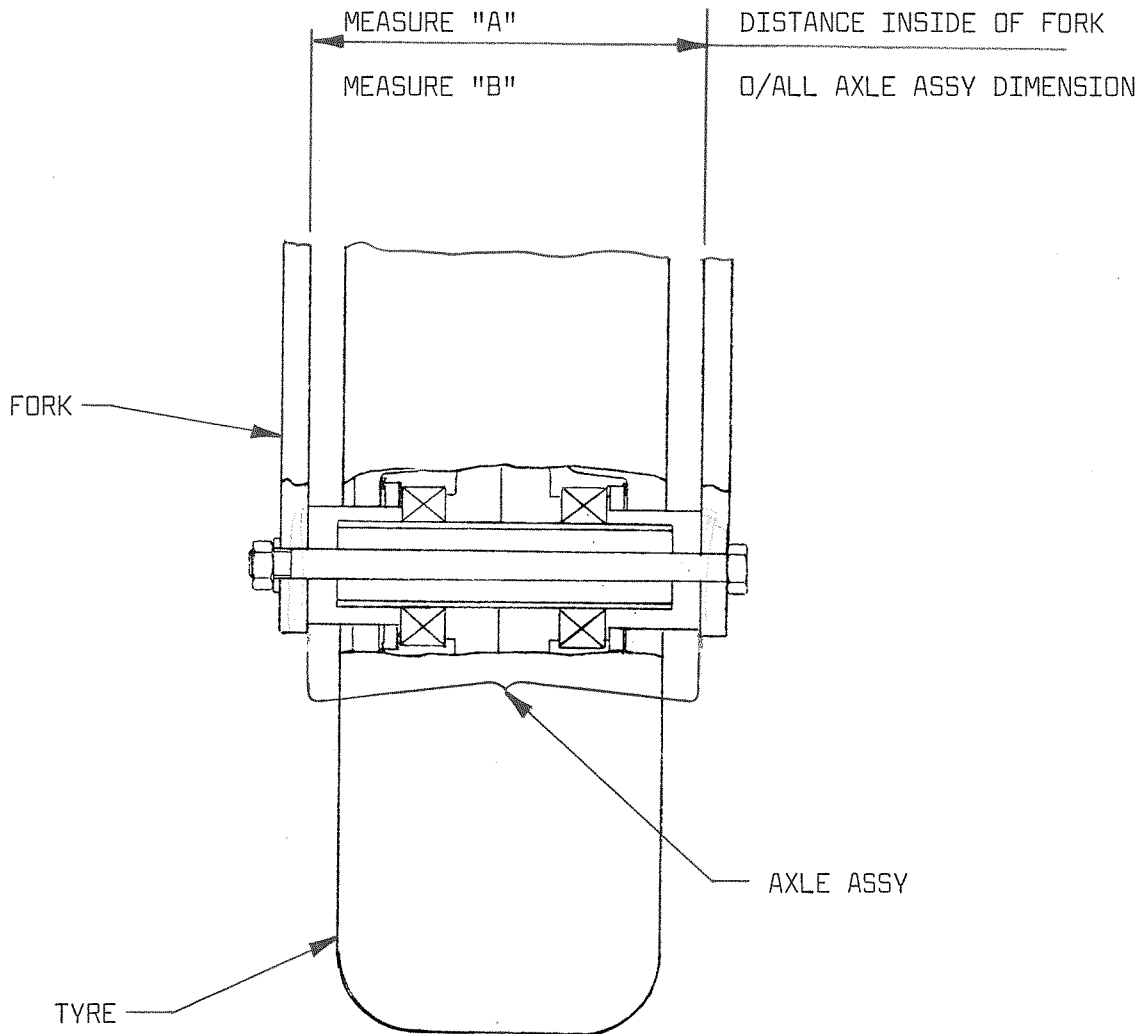

FIG 1
6. Determine by measurement at axle centreline, the following dimensions, ref Fig. 1.